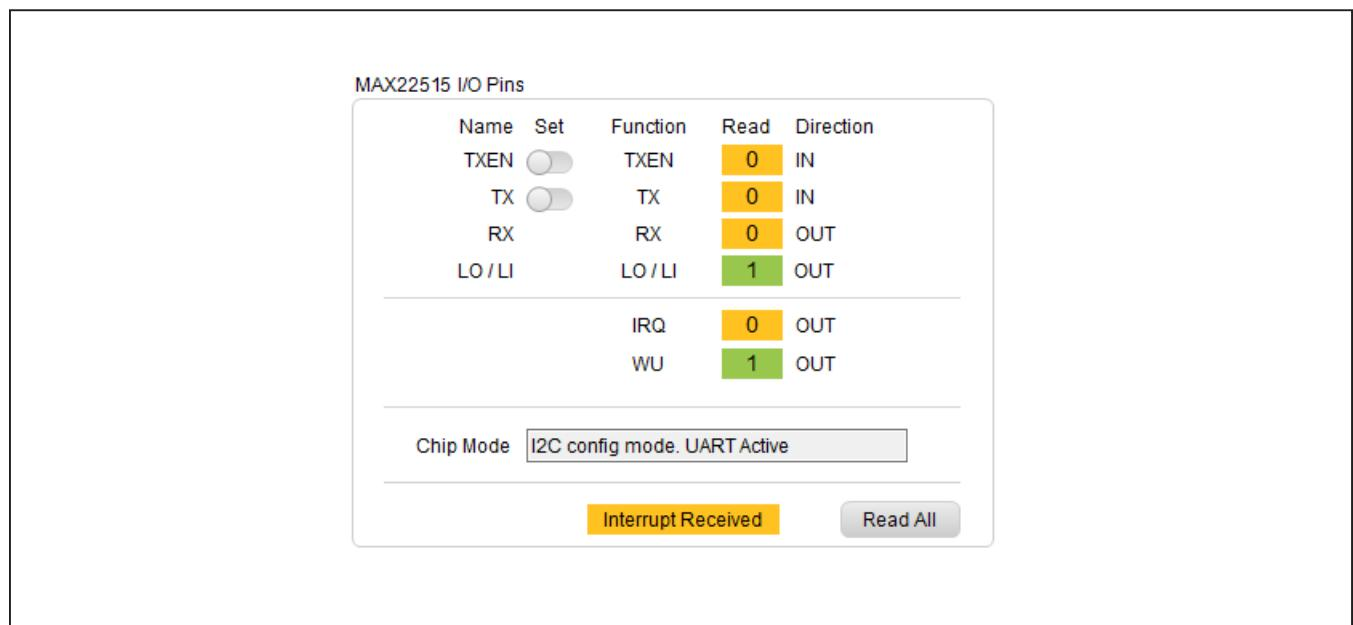

Figure 2. MAX22515 EV Kit Software, Interrupt Received
- 7) Verify that **Status: MAX32660 Connected, MAX22515 ADR = 0x68** is displayed on the status bar at the bottom left of the main window (Figure 2).
in the I/O Pins box stating “Interrupt Received” (Figure 2). Read the INTERRUPT register to clear the interrupt and deassert $\overline{WU/IRQ}$.